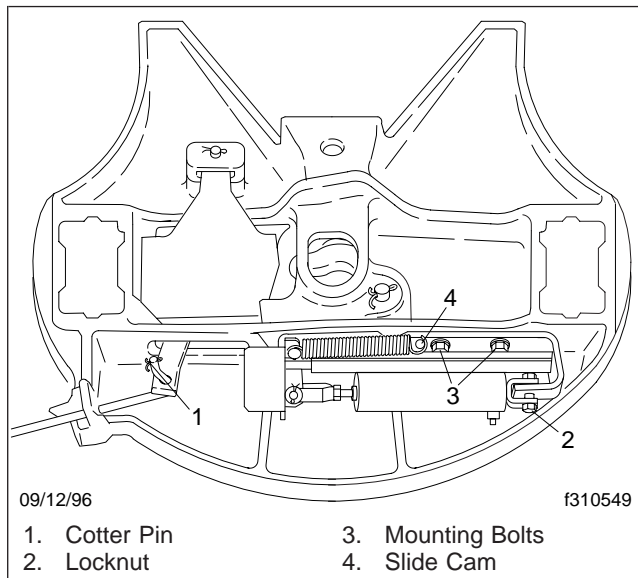

Fig. 6, Touchloc Control Mechanism General Inspection
1. Replace cracked, broken, bent, or missing parts with new parts. See **Fig. 6**.